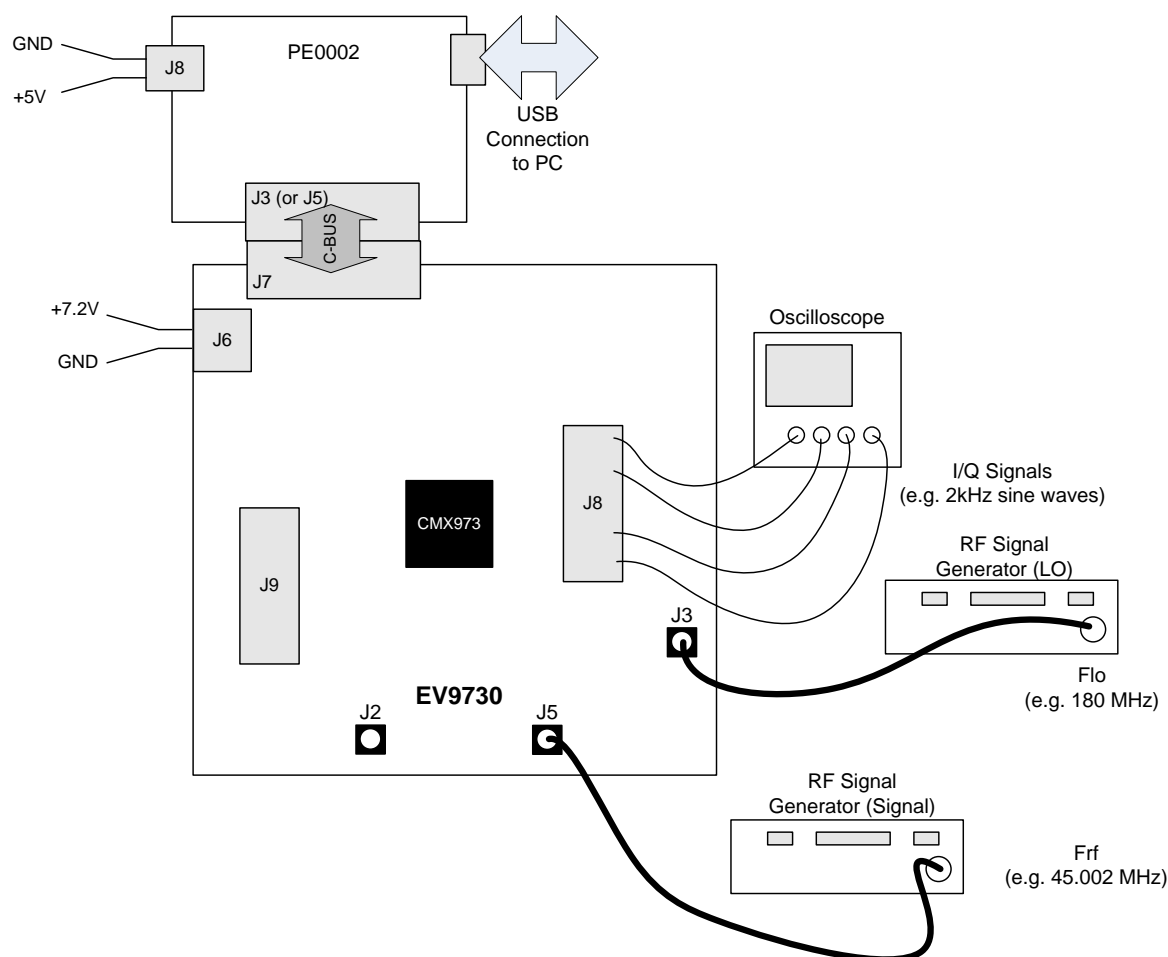

Figure 4 Typical Connections for EV9730 as a Quadrature IF Demodulator
An example of typical connections to the EV9730 is shown in Figure 4. Perform the following steps in sequence:
1. Connect test leads as shown in Figure 4, except the power to J6.